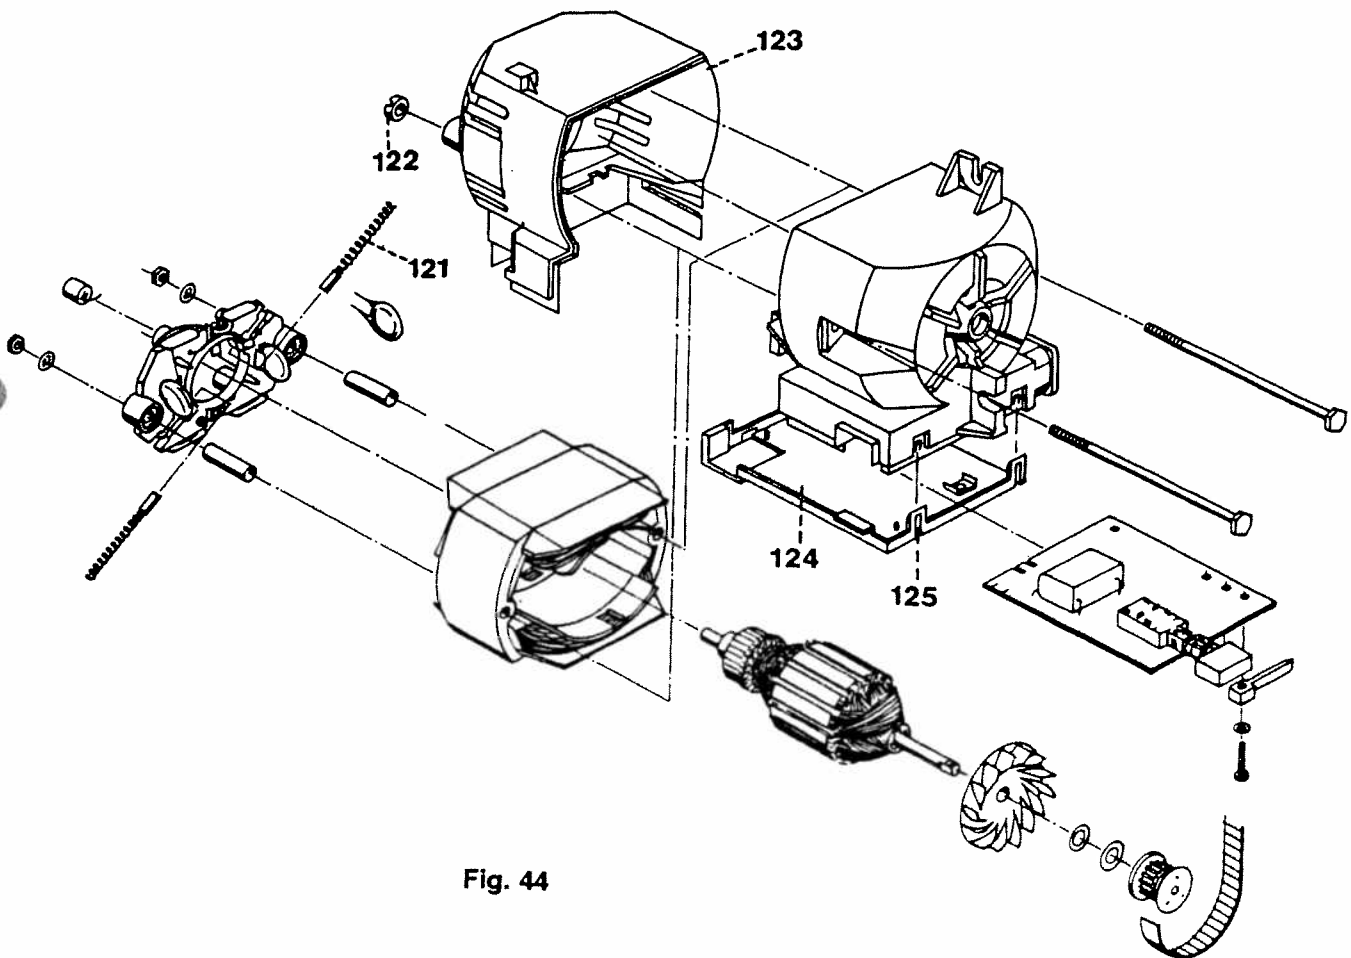

Fig. 44
- Raise the two locking tabs 125 only a little and remove cover 124 (fig. 44).